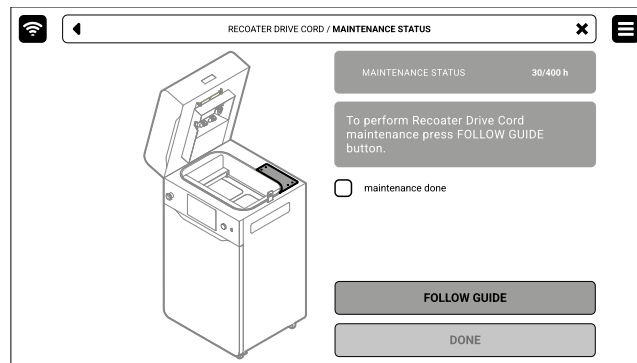

Fig. 13.63 The screen of the maintenance of the Recoater Drive Unit Cord.
3. In this case, mark **MAINTENANCE DONE** once you have completed the procedure, and then the **DONE** button. The timer will reset to zero (fig. 13.63).